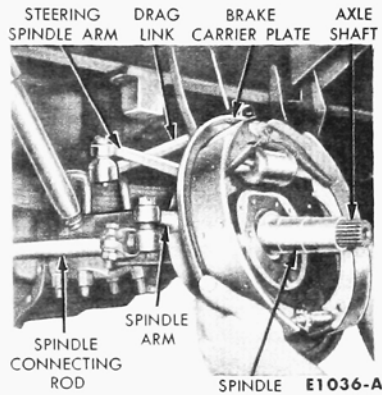

FIG. 9—Brake Carrier Plate Removal or Installation
5. Remove the cap screws which retain the brake carrier plate and spindle to the spindle arm. Remove the brake carrier plate and spindle (Fig. 9).
1. Position the spindle and the brake carrier plate on the steering arm, and then install the retaining cap screws (Fig. 9). Install the oil baffle.